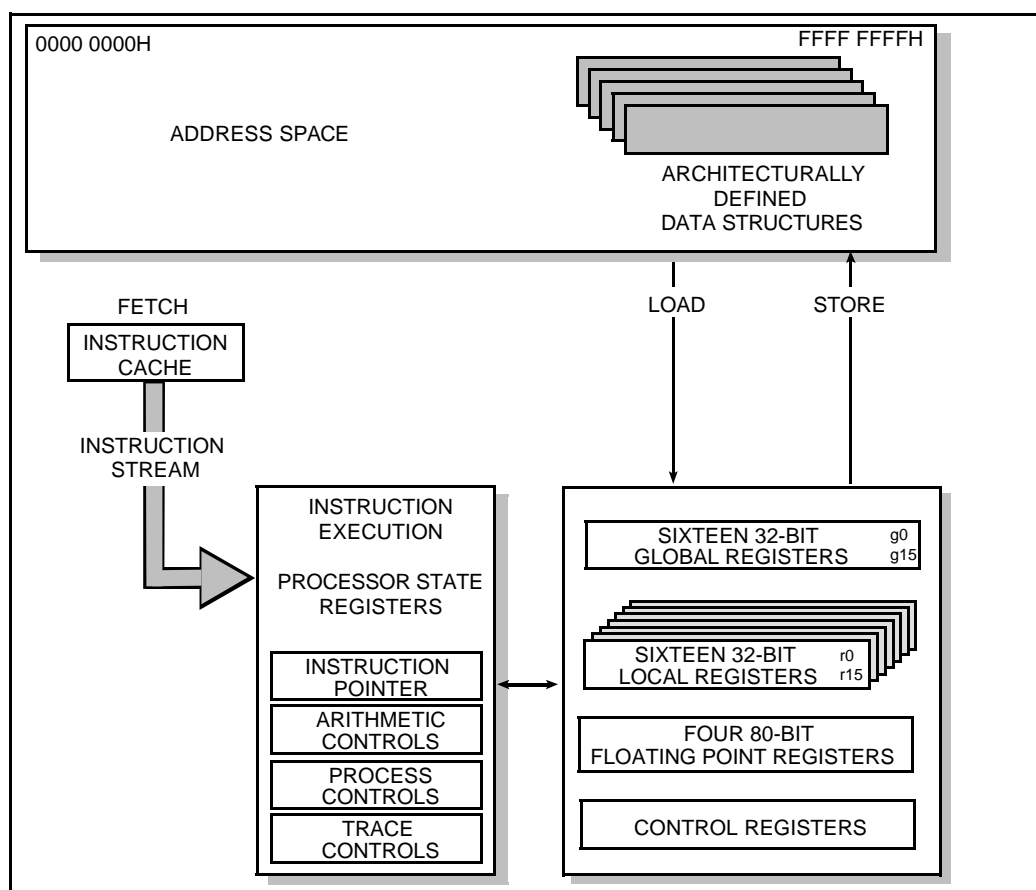

Figure 2. 80960SB Programming Environment
1. **Large Register Set.** Having a large number of registers reduces the number of times that a processor needs to access memory. Modern compilers can take advantage of this feature to optimize execution speed. For maximum flexibility, the 80960SB provides thirty-two 32-bit registers and four 80-bit floating point registers. (See Figure 2.)